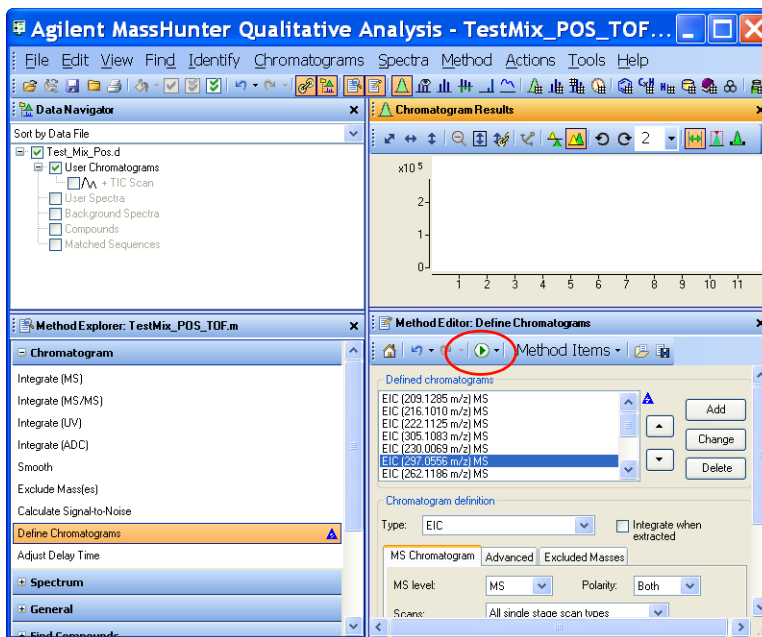

Figure 2 Define Chromatograms section selected. Click the green arrow (circled) to extract the ions.
- c In the Method Explorer window, under **Chromatogram**, select **Define Chromatograms**. See Figure 2.